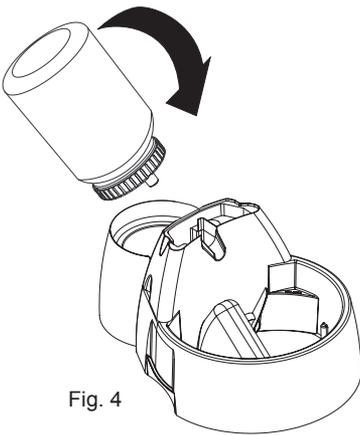

Fig. 4
8. Hold the container over the reservoir base of the fountain. Quickly turn the reservoir upside down and place the lid's spout into the reservoir base, (Fig. 4).